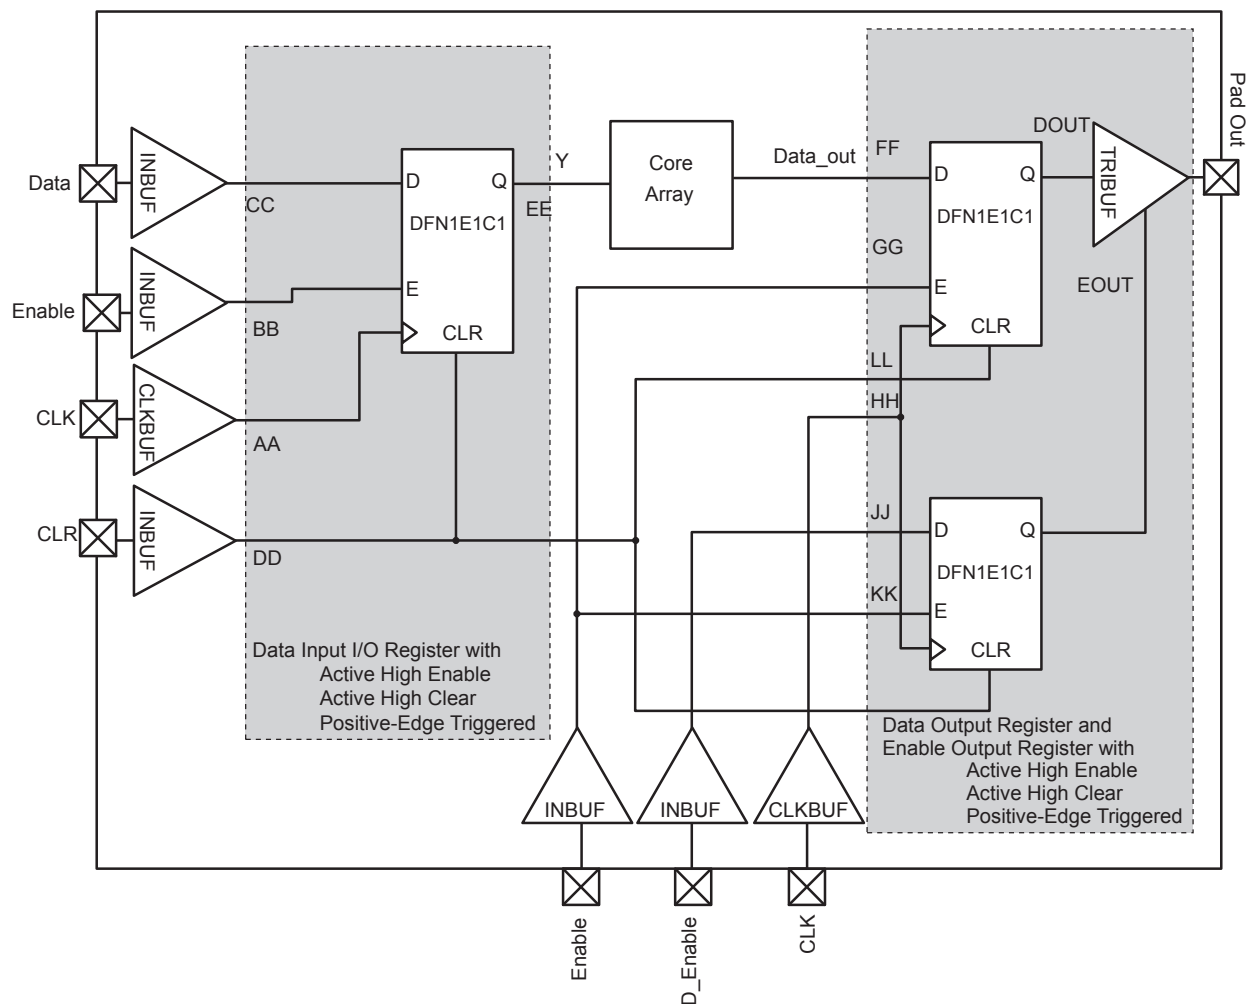

Figure 2-27 • Timing Model of the Registered I/O Buffers with Synchronous Enable and Asynchronous Clear
*Note:* \*See Figure 2-27 on page 2-68 for more information.